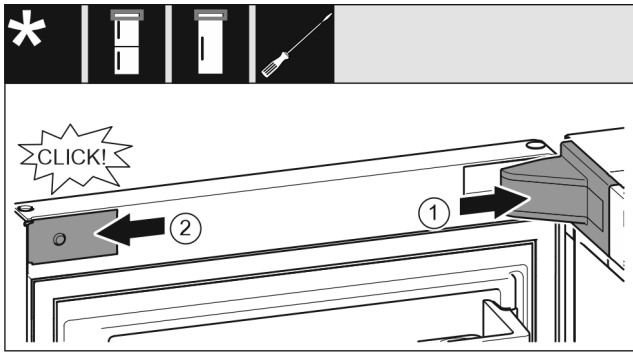

Fig. 22
- ▶ Put the swap bearing block cover Fig. 22 (1) on and engage, push apart carefully if required.
- ▶ Place the trim Fig. 22 (2) on the side and engage.